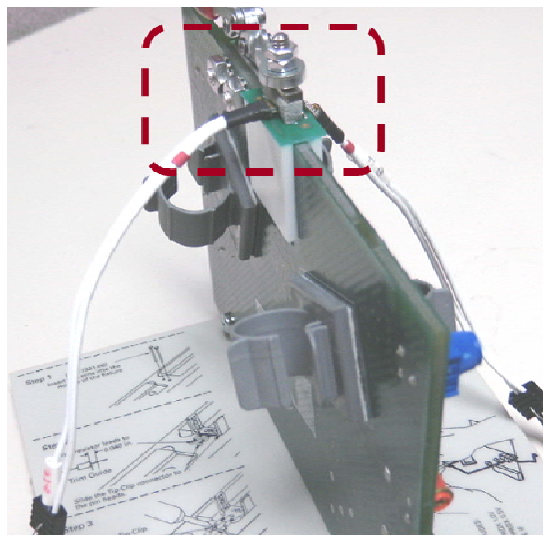

Figure 9: Two P75TLRSTs secured in the Deskew Fixture
9. The P75TLRST solder tips are positioned in the Deskew Fixture as shown in Figure 9. Ensure the polarities of the wire leads are attached to the correct connector. The red bands on the wires should be located on the same side.